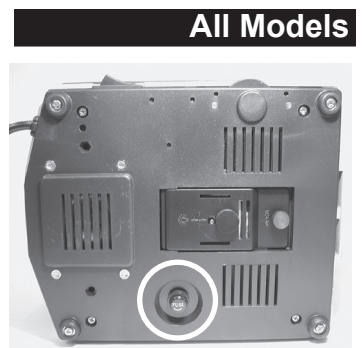

Figure 17
- 2 Carefully lay the microscope on its side and locate the fuse holder (circled in figure 17).